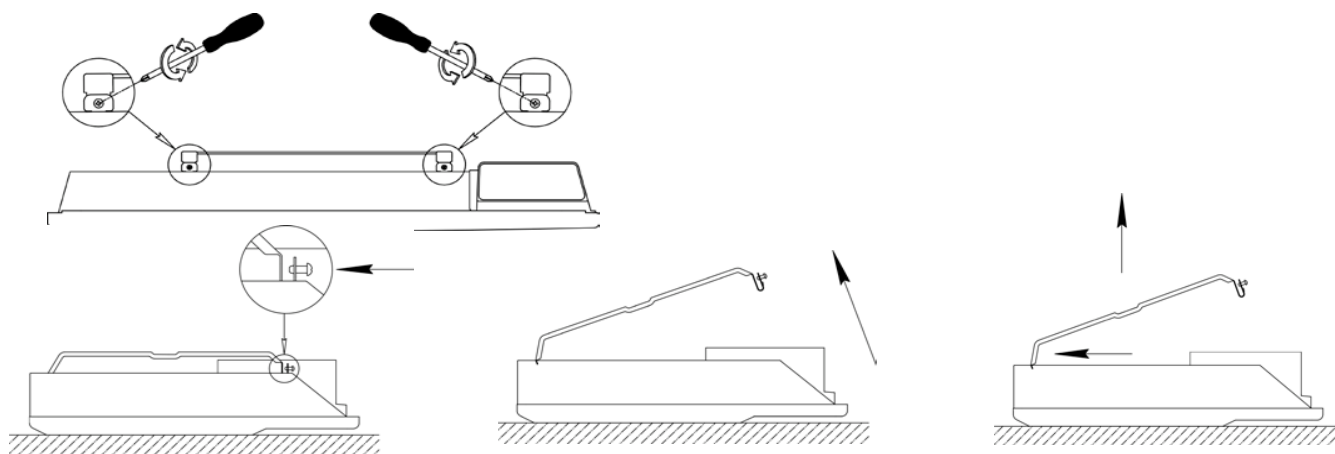
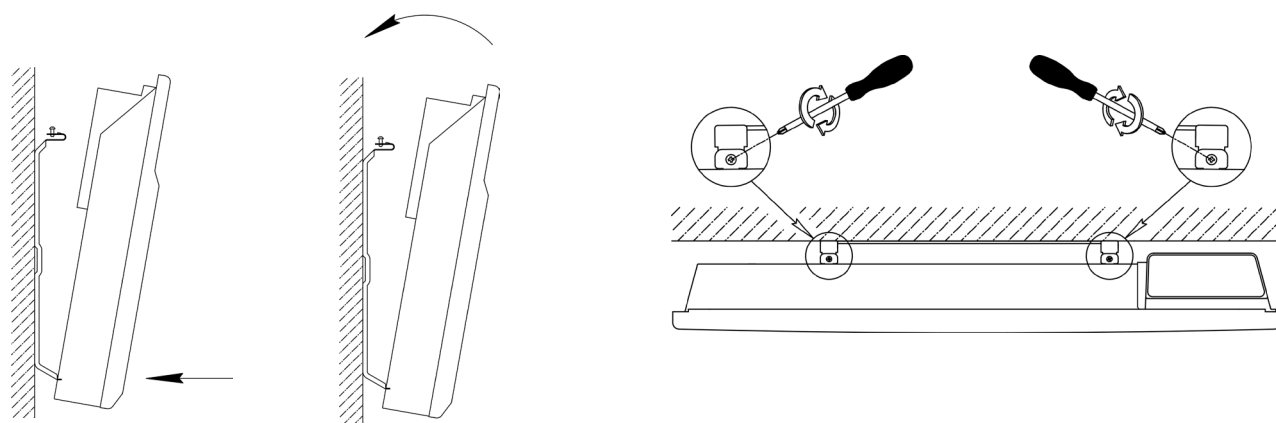

Figure 3
Figure 5
- Mount the convector on the suspension provided (Fig. 3 ... Fig. 5)
We recommend placing the device on a flat surface with the grille facing down. Use a screwdriver to loosen the upper fixation. Do not remove the screws completely. The screws should remain in the fastening (see Fig. 3).
The installation on the wall (see Fig. 5)